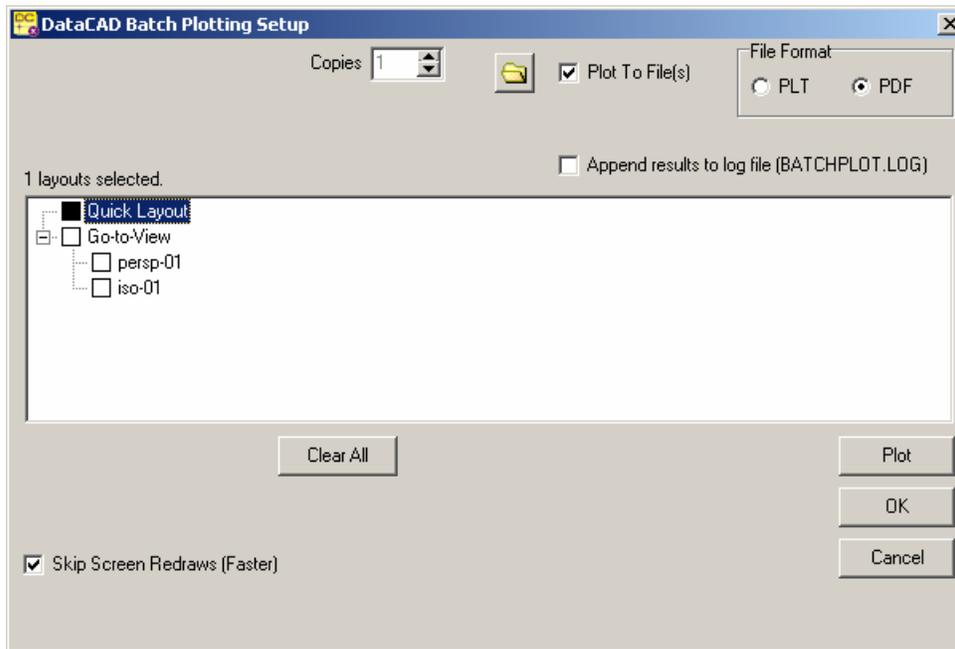

Figure 19.5: The Batch Plotting Setup dialog box
1. Check Plot to Files in the Batch Plotting Setup dialog box (see Figure 19.5).